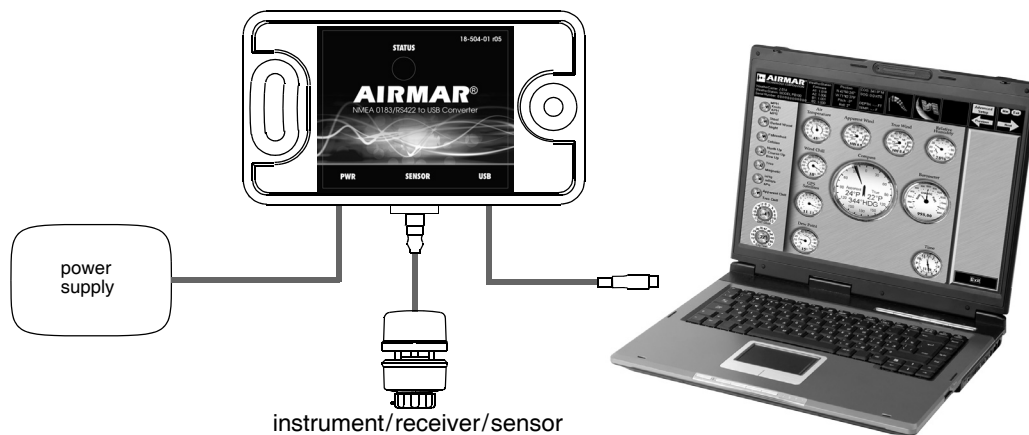

Figure 1. Installation (WeatherStation® Instrument shown)
1. Select a convenient, dry, mounting location for the water-resistant Converter, a minimum of 1 m (3') from the PC (see Figure 1).